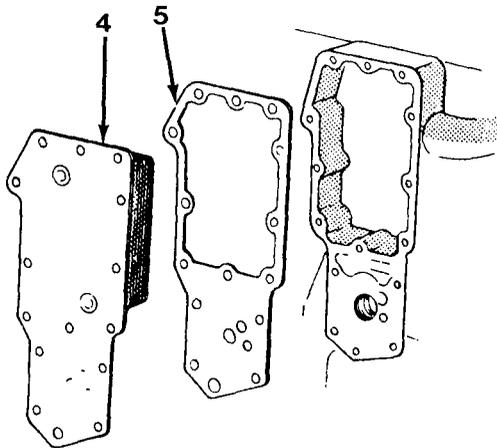

Figure 6-2
3. Using a 10 mm socket, remove 14 capscrews (2) and cover (3) from engine.
4. Remove cooler core (4) and cooler core gasket (5, Figure 6-2).
1. Install cooler core gasket (5) and cooler core (4, Figure 6-2) to engine.